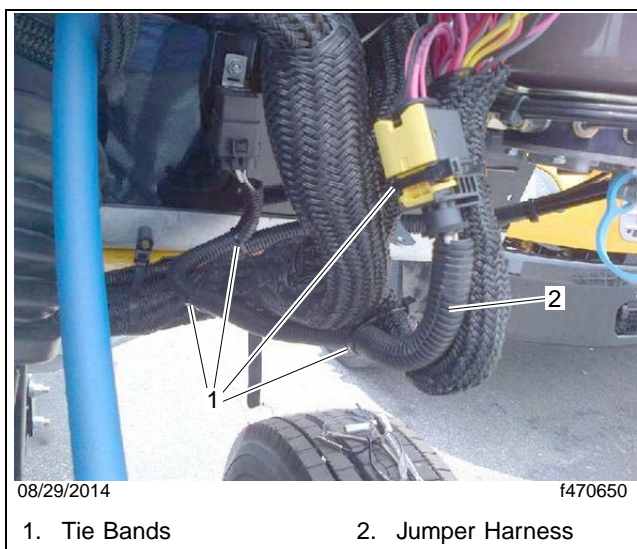

Fig. 11, Routing the Jumper Harness
4. Route the jumper harness along the main bundle and use tie bands to secure it. See **Fig. 11**
4. Route the jumper harness along the main bundle and use tie bands to secure it. See **Fig. 11** on page 7.